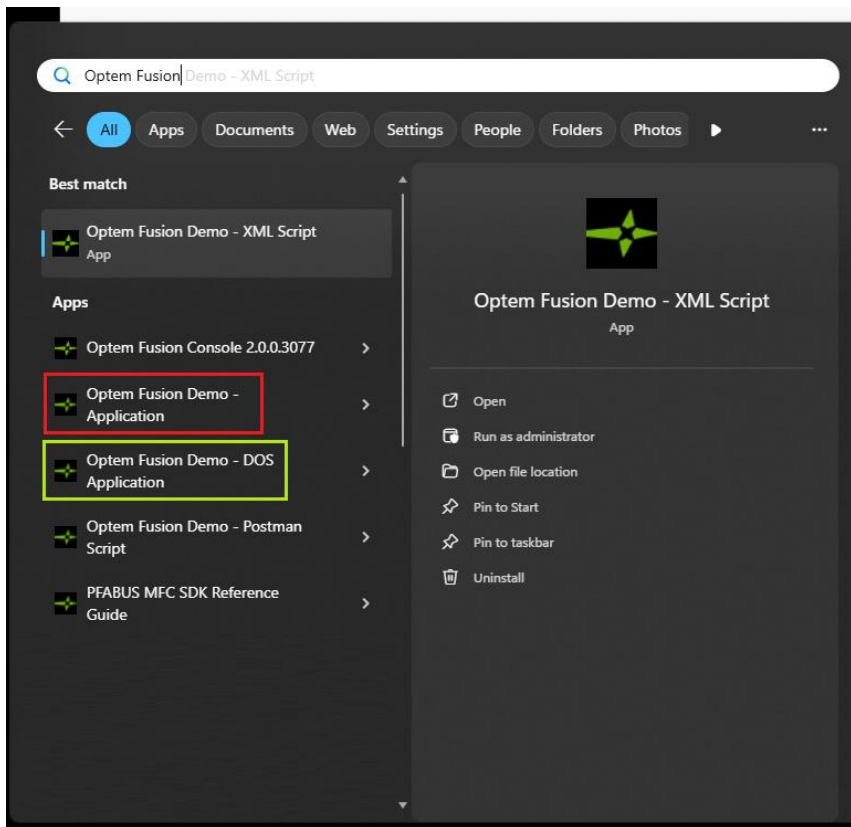

Figure 47 Start menu – Optem® FUSION C# Test Examples
- Optem Fusion Demo - Application (outlined in red in Figure 47), or
- Optem Fusion Demo – DOS Application (outlined in green in Figure 47)